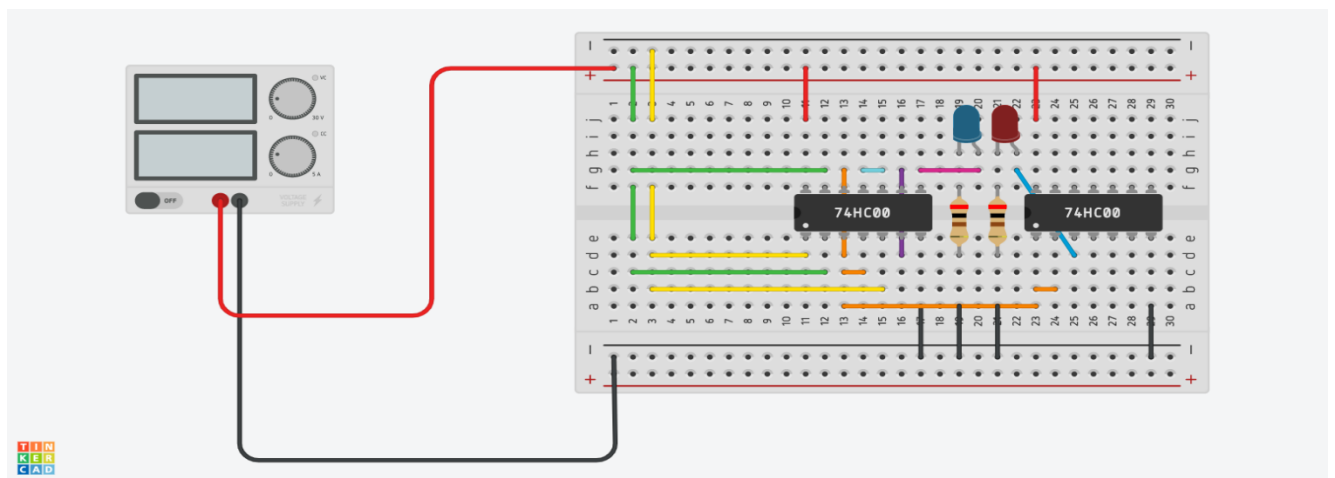

Figure 6:NAND IC to design Half Adder on breadboard.
In Figure 6, Input A is represented by the green wire and Input B is represented by the yellow wire.
- 1) As shown in Figure 3, 7400 Pin 7 is the ground and Pin 14 is VCC. So, **Connect** 7400 Pin 7 to the ground line, and Pin 14 to the 5V power line, as shown in Figure 6.
- 2) **Connect** the Inputs of the first NAND gate, Input A1 (Pin 1) to the Ground (logic 0) the yellow wire (A), and Input B1 (Pin 2) to the 5V power (logic 1) the Green wire(B).
- 3) **Connect** the Inputs of the second NAND gate, Input A2 (Pin 4) to Output Y1 (Pin 3) and Input B2 (Pin 5) to the Ground (logic 0) the yellow wire (B).
- 5) **Connect** the Inputs of the fourth NAND gate, Input A4 (Pin 12) to Output Y1 (Pin 3), the orange wire. **Connect** Input B4 (Pin 13) to the 5V power (logic 1), the green wire (A).
- 6) Output Y3 (Pin 8) represent SUM, **Connect** the output to a blue LED, as shown in Figure 6.
- 2) Output Y1 (Pin 3) represent CARRY, **Connect** the output to a red LED, as shown in Figure 6.